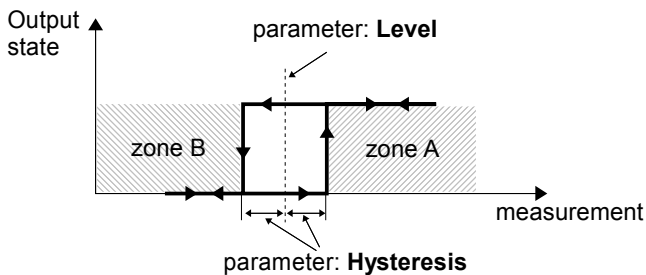
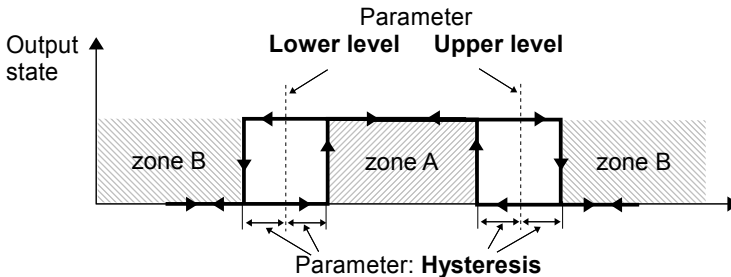

Fig. 7.66. One threshold control of the relay outputs
Fig. 7.67. Two threshold control of the relay outputs
- **Mode** - this parameter allows the user to select the method of operation of the output, **Mode** parameter has options (see Fig. 7.66 and Fig. 7.67):
**Levels** parameter block (see Fig. 7.66, Fig. 7.67 and Fig. 7.68)